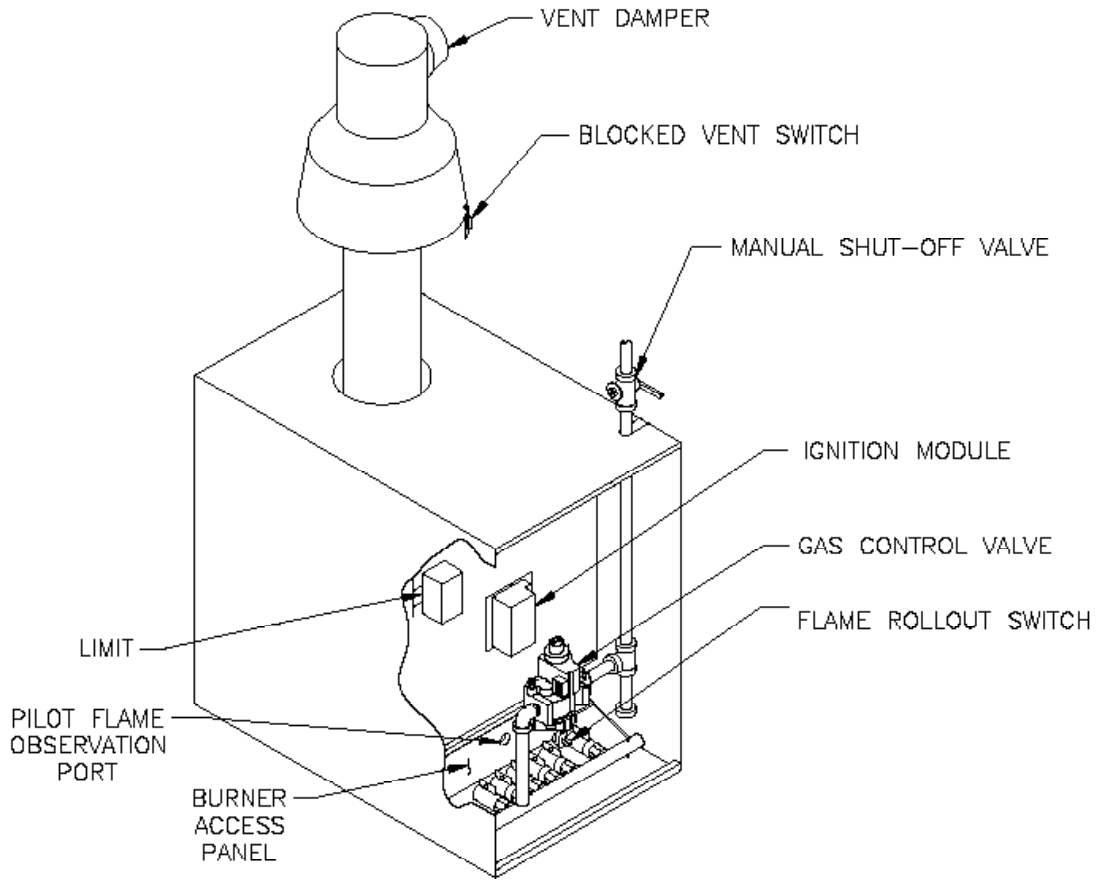

Figure 1: Control Locations
1. Limit See Figure 1. A device which automatically interrupts boiler operation when the water temperature exceeds the set point. Maximum allowable boiler water temperature is 220°F. Maximum switch differential is 30°F.
2. Blocked Vent Switch See Figure 1. A device which automatically interrupts boiler operation when excessive vent system blockage occurs. If the control was activated to interrupt boiler operation, do not attempt to place boiler in operation. Contact a qualified service agency.
3. Flame Rollout Switch See Figure 1. A device which automatically interrupts boiler operation when flames or excessive heat are present in the vestibule. The control is a single use device. If the control was activated to interrupt boiler operation, do not attempt to place boiler in operation. Contact a qualified service agency.
4. 24-Volt Intermittent Ignition System (EI). See Figure 1. The Electronic Ignition System consists of: